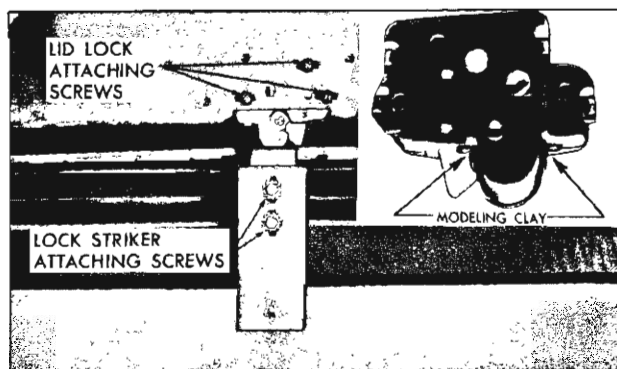

Fig. 79—Rear Compartment Lid Lock and Striker
2. Remove lid lock attaching screws (fig. 79) and remove lock assembly.
2. Remove striker attaching screws (fig. 79) and remove striker.
- a. Insert a small quantity of modeling clay on frame of lock at both sides of the lock bolt (fig. 79). Close lid with moderate force.